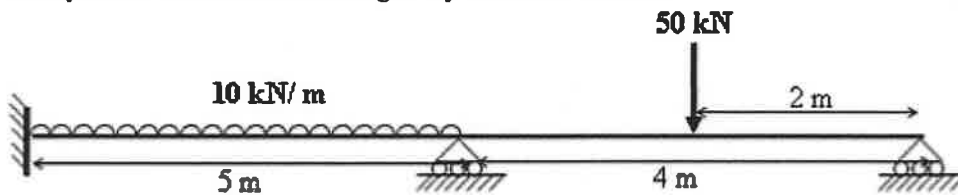

Fig. 5
14. A). Analyze the beam shown in Fig. 5 by stiffness method.